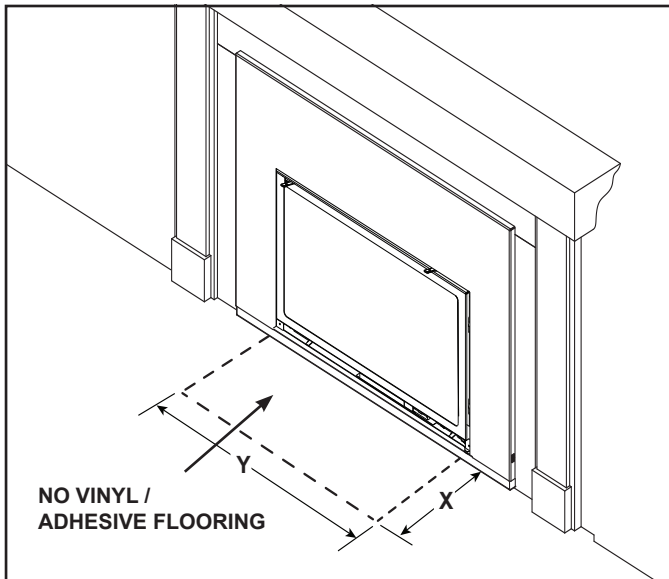

Figure 3.18 Hearth - Combustible Material Exception
- A minimum 1/4 inch gap from the bottom of the appliance to the metal floor of the solid fuel firebox is **REQUIRED**. See side view in Figure 3.18.
- Combustible flooring underneath the appliance is acceptable with a 1/4 inch gap. See Figure 3.18.